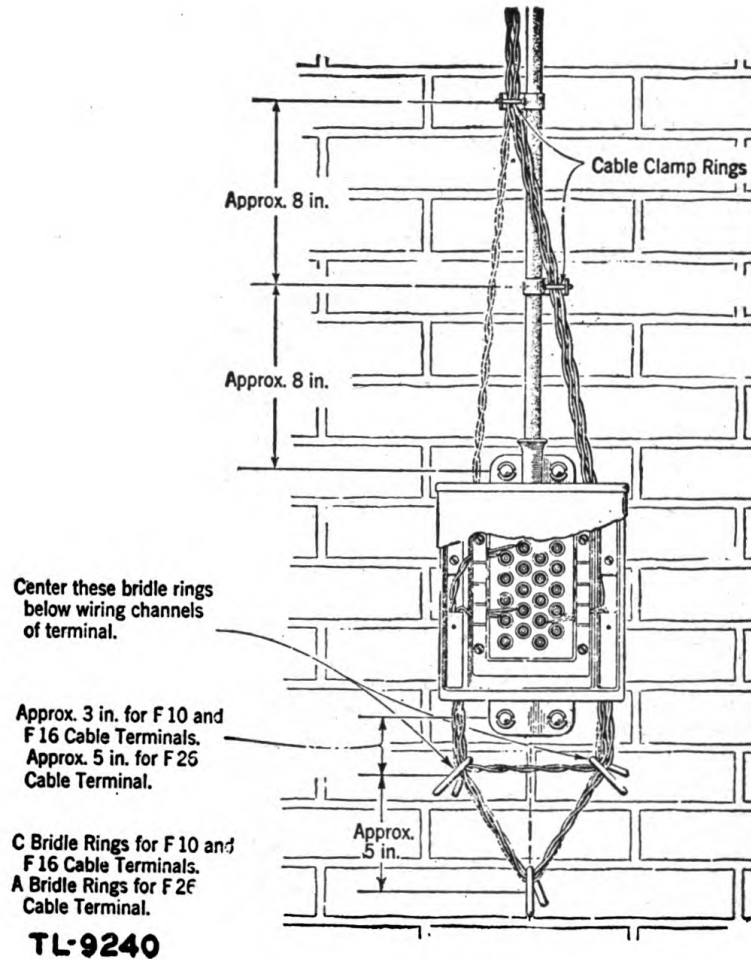

Figure 45. "F"-type cable terminal mounted on wall, with stub cable at top of terminal.
(3) Figure 45 shows "F"-type cable terminal mounted on wall, with stub cable at the top of the terminal.